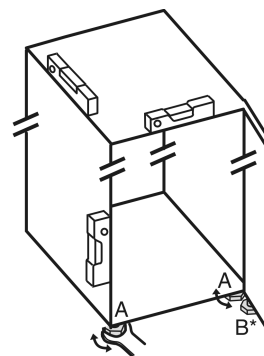

Fig. 4
- Unscrew the adjustable feet Fig. 4 (A) using the enclosed open-end spanner and a spirit level until the appliance is firmly aligned and level.
- Unscrew the adjustable foot Fig. 4 (B) on the swap bearing block with the enclosed open-end spanner until it rests on the floor.
- Turn the adjustable foot Fig. 4 (B) 90° further.